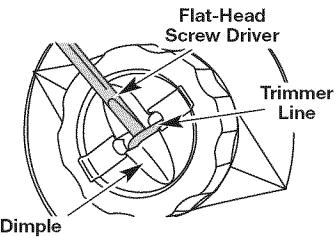

Fig. 15
- Using a flat-head screwdriver, insert the tip into the line dimple and just under the exposed portion of the line (Fig. 15).